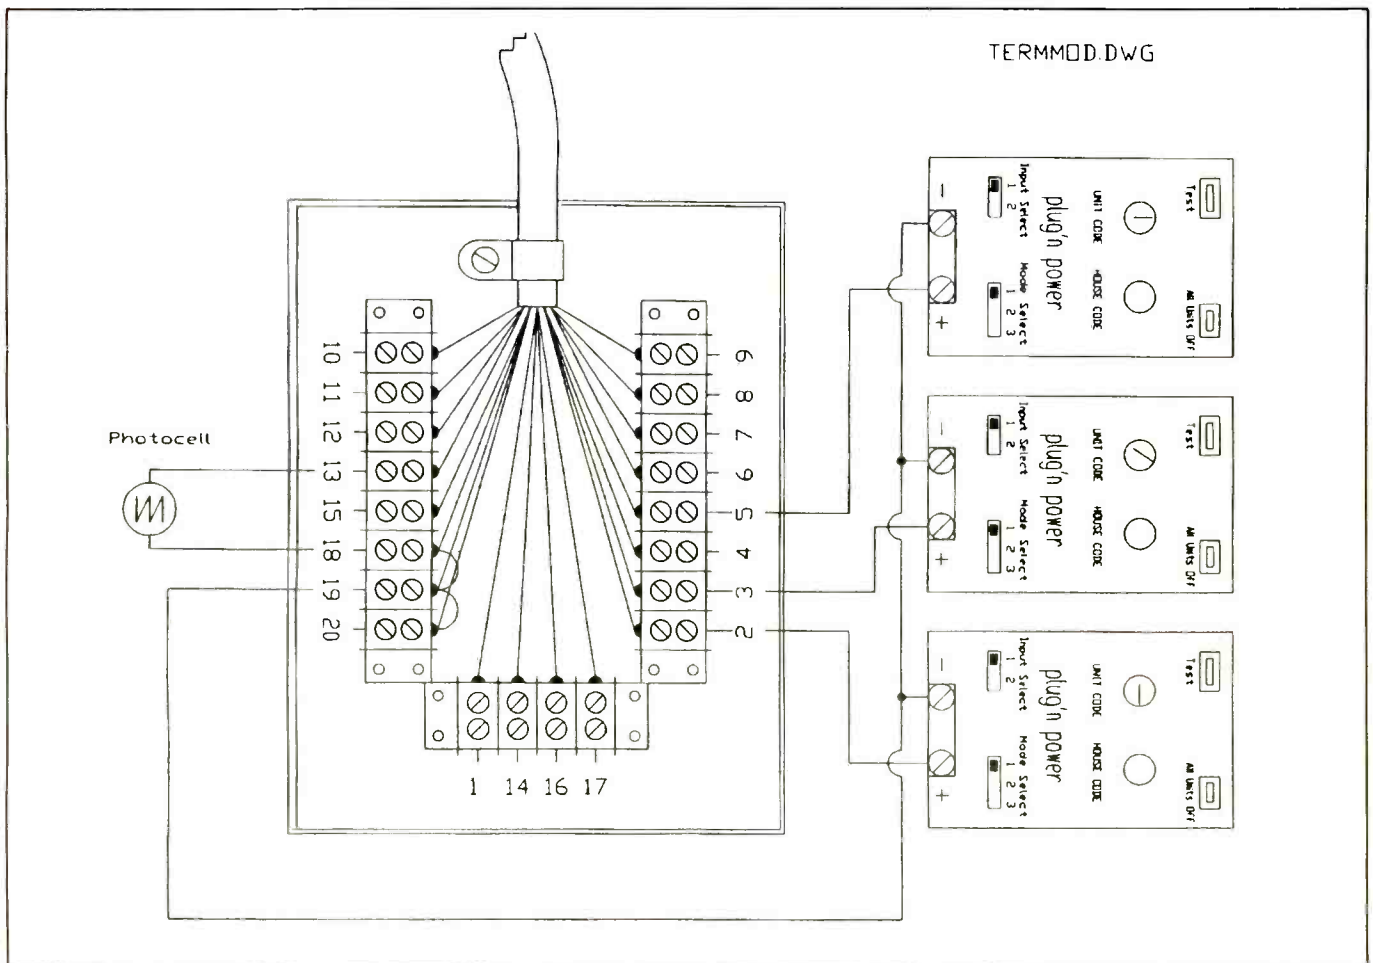

Fig. 3. A computer-controlled light-switch arrangement.
- *Computer-Controlled Light Switch.* Begin by connecting a wire from position 2 of the terminal block to the + screw terminal on the Plug 'n Power Universal Interface Module, as in Fig. 3. Connect another wire (ground) from position 20 to the - terminal on the Interface Module. Set both switches on the Interface Module to position 1 and plug this module into an ac outlet.